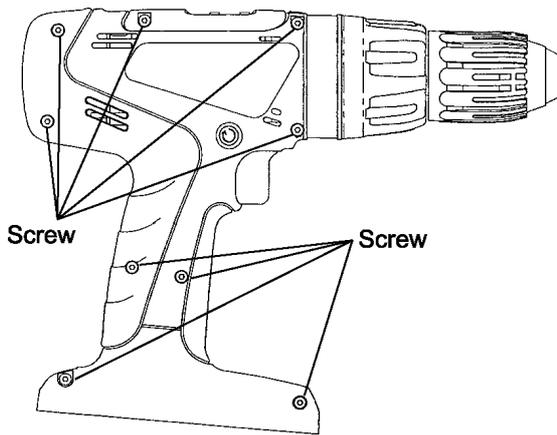

Fig. 5
2. Remove nine housing screws. (See Fig. 5)